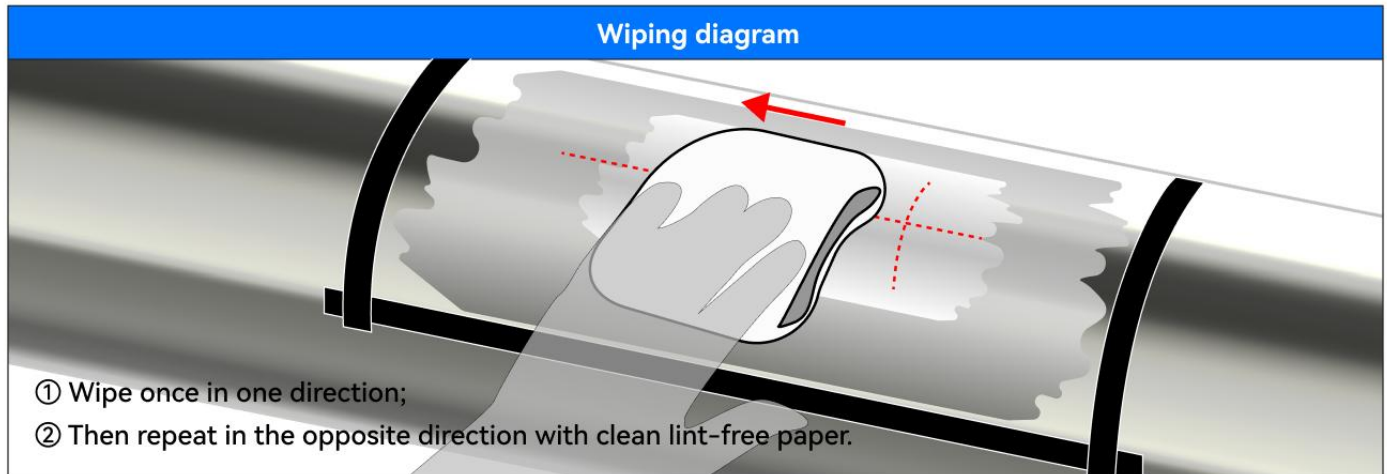

Figure 3.18
9. Mark the strain gauge position line on the center line marked in Figure 3.18.
14. After neutralization, gently wipe the clean area with clean lint-free paper to dry the surface. For fresh lint-free paper, a single stroke should be made in the opposite direction, starting from the clean area and moving outward to avoid re-contamination of the uncleaned boundary, as shown in Figure 3.18. After each outward wipe, replace the paper towel until the area is completely clean. Finally, the surface is properly prepared for strain gauge bonding. Install strain gauges as soon as possible after operation to prevent contamination.